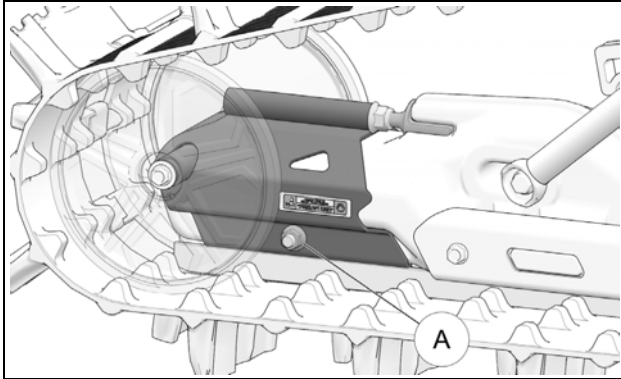

Figure 23
CAUTION: Track Tensioner assembly bolt (A) must be loosened before adjusting track tension. See Figure 23.
- Tighten assembly bolt (A) back to 35 N-m (25 lb-ft) of torque once Track tension is set. See Figure 23.